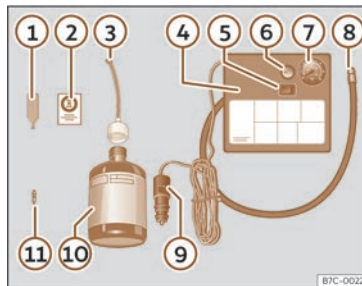

Fig. 213 Standard display: contents of the anti-puncture kit.
The anti-puncture kit is located underneath the floor covering in the luggage compartment. Includes the following components >>> Fig. 213:
- Unscrew the tyre valve cap and insert. Use the device >>> Fig. 213 ① to remove the valve cap. Place it on a clean surface.
>>> **Fig. 213 40**.
● Screw the tyre inflation hose >>> **Fig. 213 3** into the tyre sealant bottle. The bottle's seal will break automatically.
● Remove the filler cap >>> **Fig. 213 3** and screw the open end of the tube into the tyre valve.
>>> **Fig. 213 1** onto the tyre valve.
● Screw the tyre inflation tube of the compressor >>> **Fig. 213 8** on the tyre valve.
● Check that the air evacuation screw is closed >>> **Fig. 213 6**.
● Attach the connector >>> **Fig. 213 9** to the vehicle's 12 volt power outlet >>> page 201.
● Switch on the air compressor with ON/OFF switch >>> **Fig. 213 5**.
● Attach the sticker >>> **Fig. 213 2** to the instrument panel display, within the driver's field of vision.
Screw in the inflator tube >>> **Fig. 213 8** again and check the pressure on the gauge **7**.